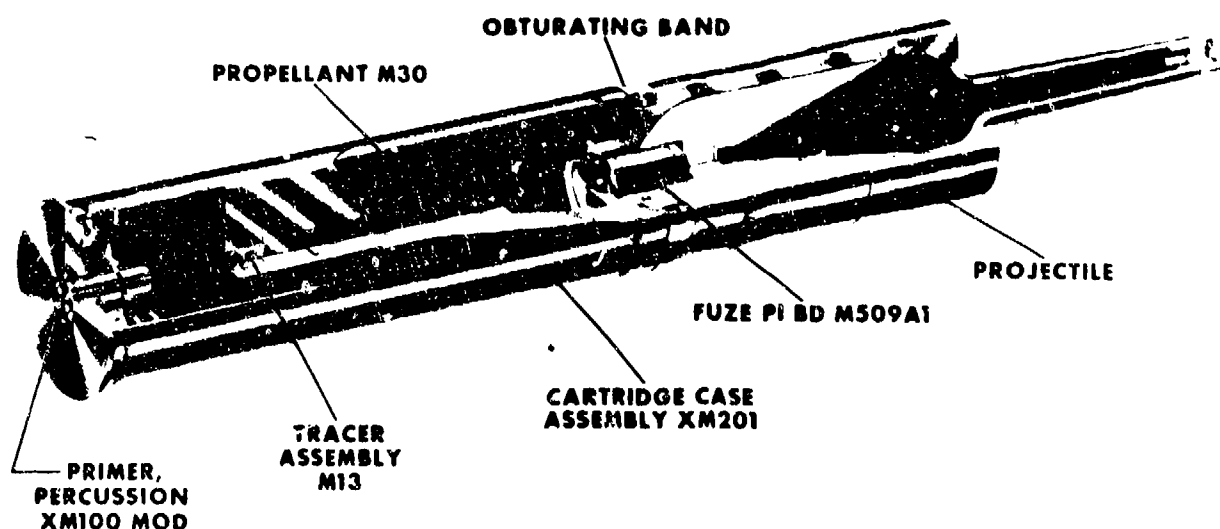

Figure 11-42. M622 high-explosive antitank projectile.
(1) *M622 high-explosive antitank projectile.* The M622 high-explosive antitank projectile has been adapted from the M456 105-mm tank round which has a shaped-charge and is fin stabilized instead of spin stabilized. It is a special purpose round and comes complete with the cartridge case crimped to the projectile. It also has a special point-initiating base-detonating (PIBD) fuze screwed into the projectile. The round has been type classified for firing in all of the 105-mm howitzer tubes of the field artillery (fig 11-42) but is not in production at this time.